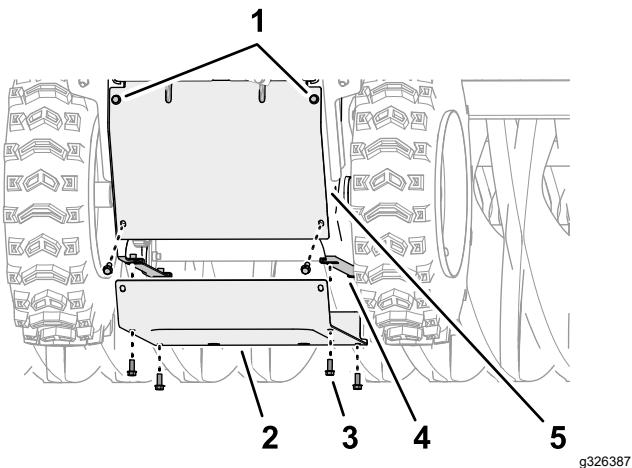

Figure 51
4. At the bottom of the machine, align the holes in the bottom cover with the holes in the flanges of the left and right side plates (Figure 51).
- 5. Assemble the bottom cover to the machine (Figure 51) with the 6 flange-head capscrew (1/4 x 5/8 inch).
- 6. tighten the 2 top flange-head capscrew (1/4 x 5/8 inch) that secure the rear cover to the machine (Figure 51).